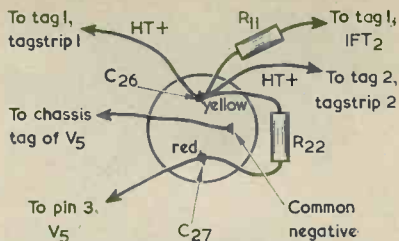

Fig. 6. The connections to C26, C27
2. Carry on next to the connections at C26, C27 which are shown in Fig. 6. The free ends of the leads from C26 to tag 1 of Tagstrip 1 and tag 2 of Tagstrip 2 are connected when these are mounted later. The free end of R11 is also connected later. All connections shown are soldered.
25. Connect the free end of R11 (see Fig. 6) to tag 1 of IFT2. Connect C15 between tag 1 of IFT2 and V2 chassis tag. Solder at tag 1 and the chassis tag. Connect one free lead from C26 (see Fig. 6) to tag 1 of Tagstrip 1, and the other free lead from C26 to tag 2 of Tagstrip 2. Solder at both these tags.